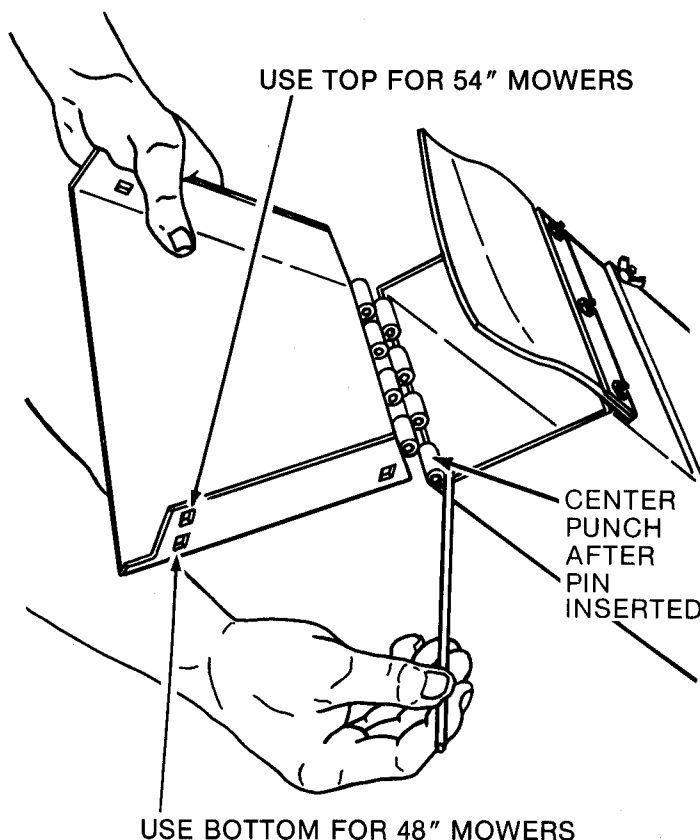

FIG. 10 - ADAPTER BOTTOM STRUCTURE
Step 8: Attach deck adapter structure and adapter bottom structure to blower structure. Align hinge halves and insert hinge pin. Use hammer and center punch to secure hinge pin as shown in figure 10. Set adapter bottom open for 54 in. mower and closed for 48 in. mower.